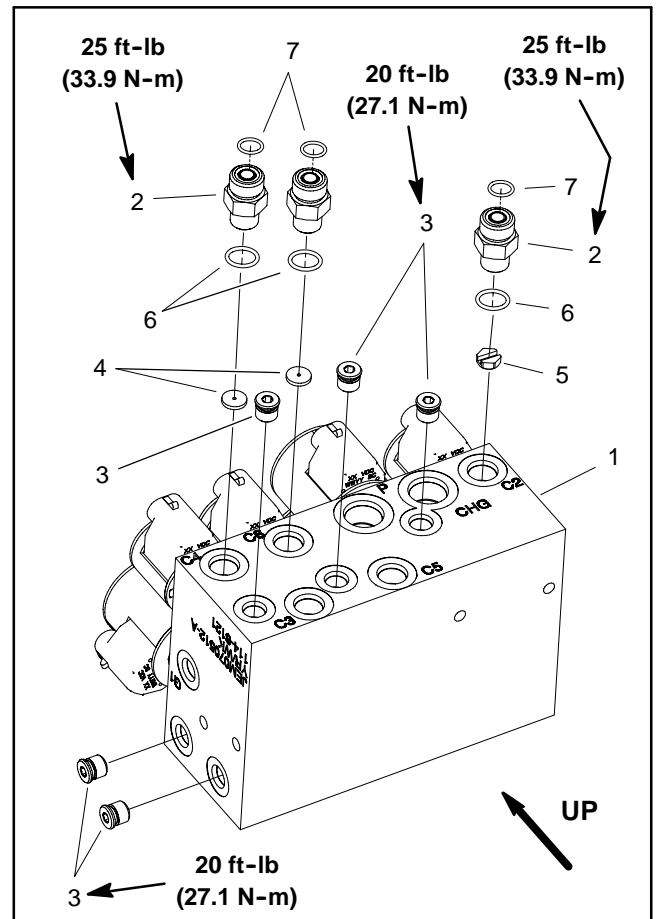

Figure 102
IMPORTANT: A flow control orifice is placed beneath several of the hydraulic fittings on the lift control manifold (Fig. 102). The lift manifold uses two (2) different orifice sizes. If a fitting is removed from the lift control manifold and an orifice is in the manifold port, make sure to remove orifice and label its position for assembly purposes. Also note location of groove in orifice for assembly purposes.
IMPORTANT: When installing orifice in manifold (Fig. 102), make sure that orifice is flat in the base of the manifold port. Manifold damage is possible if the orifice is cocked in the cavity.